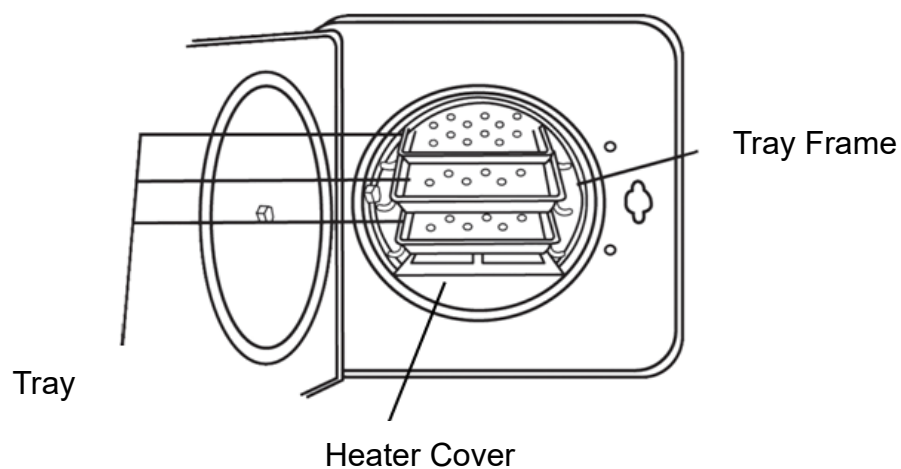

Figure 7 – Tray
E. Install the tray as Figure 7. (optional accessory)